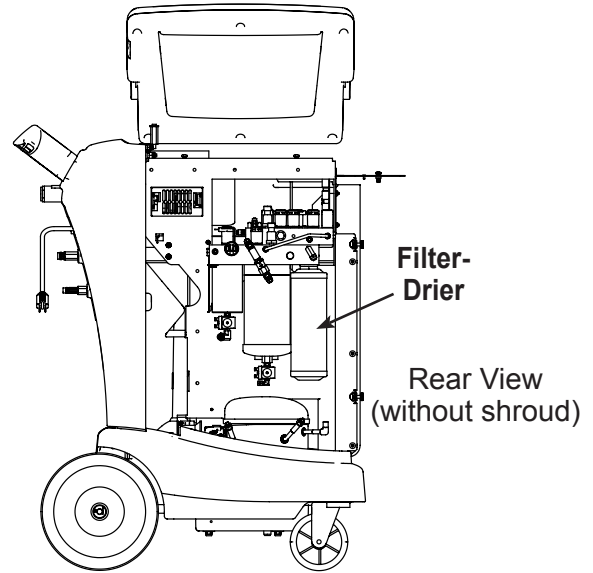

Figure 15
5. The display reads PLEASE REPLACE FILTER. Open the rear door of the unit and unscrew the old filter. See Figure 15.